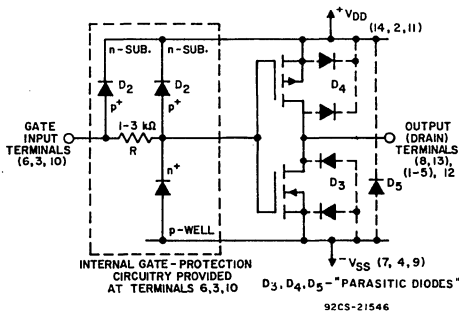

Fig. 34— Integral protection circuits used in CA3600E.
Fig. 34 shows a protection circuit^{5,8} which is incorporated at each gate-lead of the CA3600E. A typical value of 1 to 3 kilohms is used for the input resistor R, which functions in combination with the capacitance of the gate and the associated protective diode to integrate and clamp input voltages to a safe level. This circuit also shows the "substrate diodes" ($D_3, D_4,$ and D_5) which provide protection to the MOS channels at the output terminals.
4. Signals from low-impedance sources should not be applied to the gate terminals while the power supply is off. As a corollary, it follows that the power supply should not be turned off while a signal from a low-impedance source is being applied to any gate terminal. When the V_{DD} supply is off, the positive "back-bias" voltage is removed from the cathode of diode D_2 (see Fig. 34). Consequently, an input signal with positive-going polarity can drive D_2 into conduction. Under these conditions a low-impedance signal source can provide sufficient current to permanently damage D_2 and/or melt aluminum interconnection paths. Therefore, if, in any system design using the CA3600E, any gate input excursion is expected to exceed $+V_{DD}$ or fall below $-V_{SS}$, the current through the input diodes should be limited to 100 μ A.